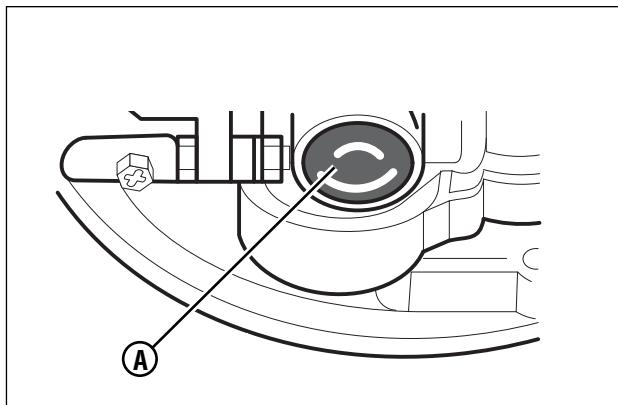

Figure 13: The engine primer button
5. The primer button (**A**, **Figure 13**) is on the side of the engine. Push the primer button. Every time you push the primer button, wait two seconds. For the number of times required to push the primer button, see the engine manufacturer's instructions.